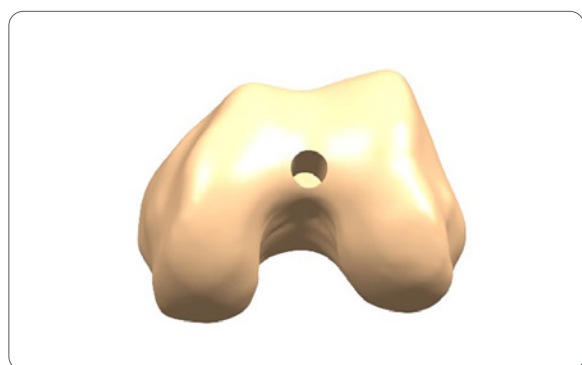

Figure 5
1. Open the femoral canal with the 9.5mm Intramedullary Drill. The drill has a 12mm step to open the entry point further (**Figure 5**).